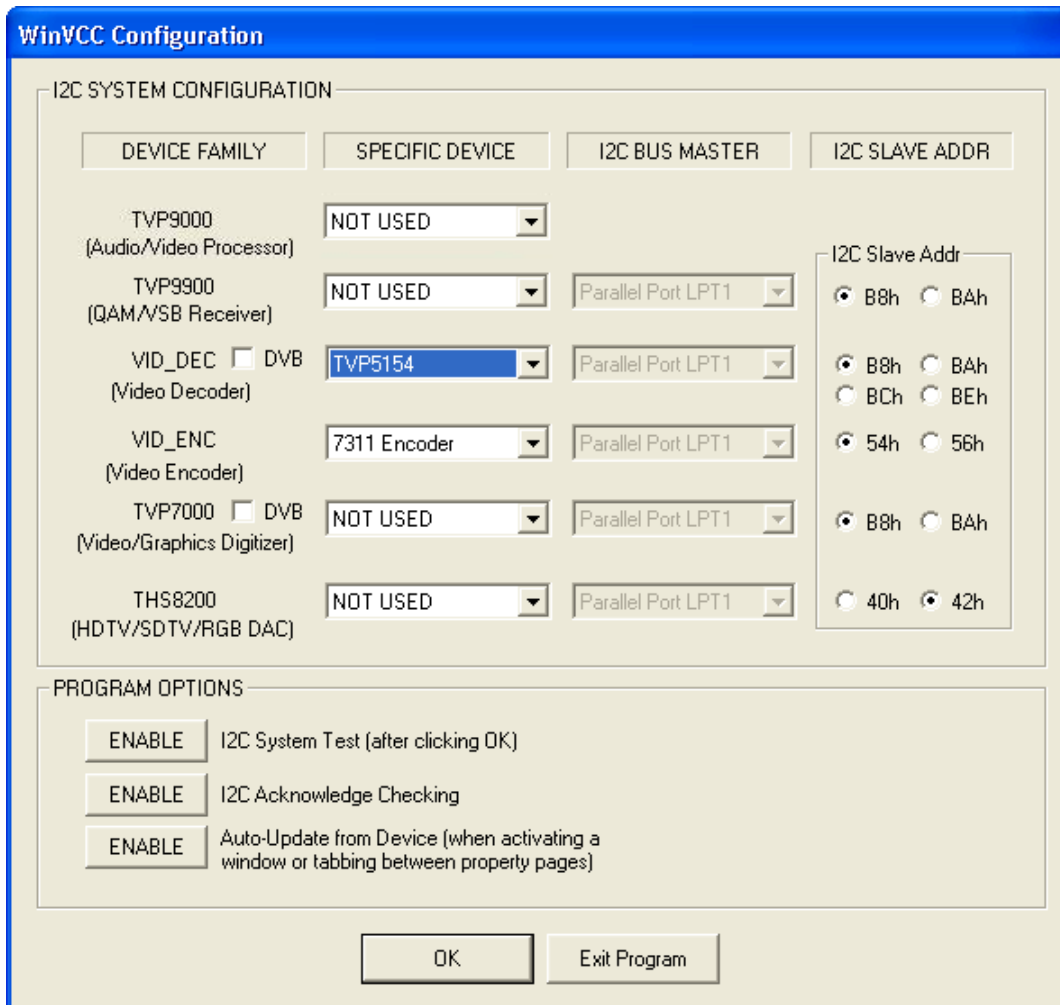

Figure 4. WinVCC – I²C Configuration Screen
1. Once WinVCC is executed, the WinVCC Configuration screen appears, as shown in Figure 4. This dialog box configures the I²C bus. Next to VID_DEC, select the TVP5154 and ensure the I²C address is set to 0xB8 (default setting on EVM.) This must match the I²C ADDR jumper on the TVP5154 board.